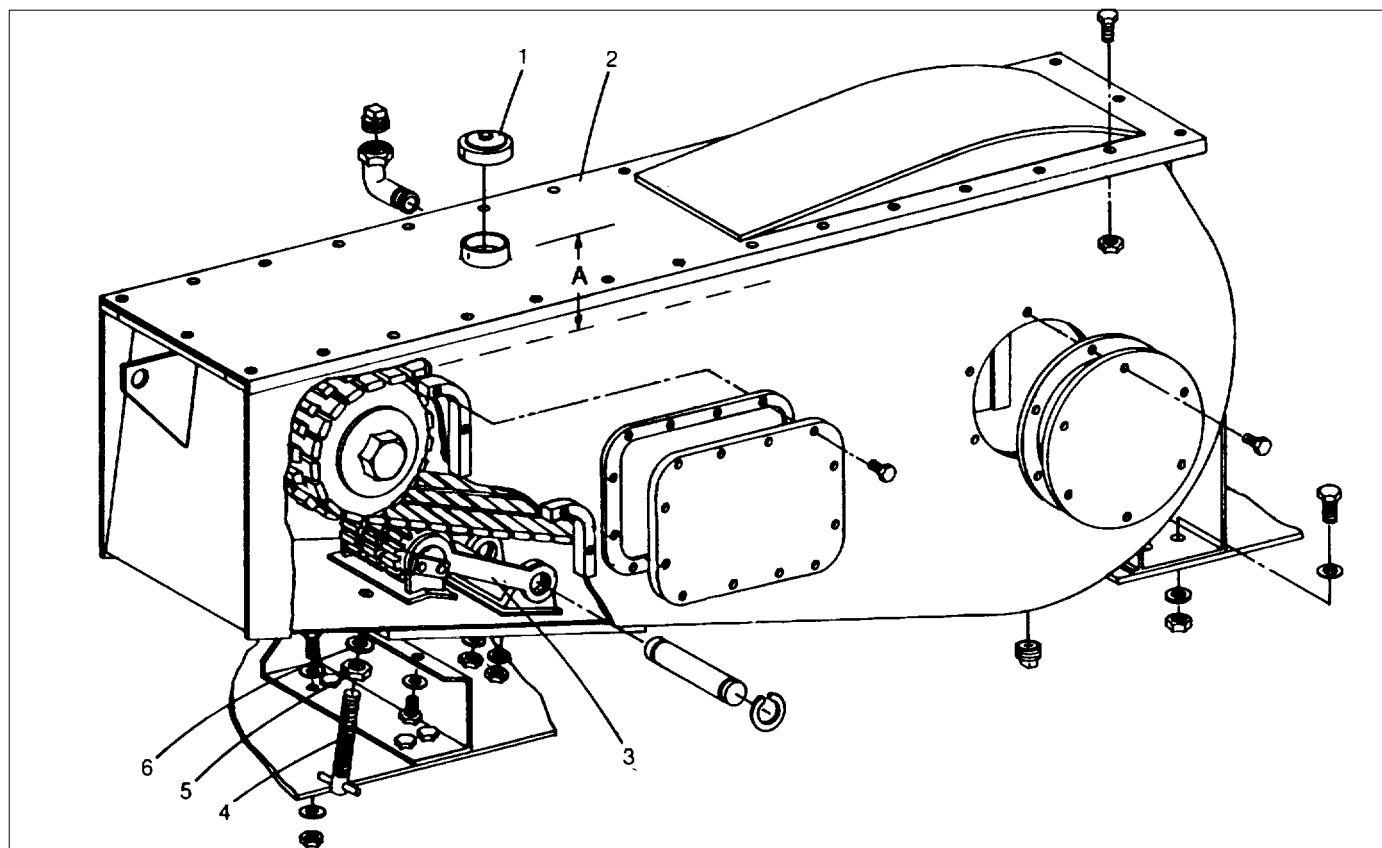

Fig. 5
- (1) Cotter In Position
- (2) Hit Punch
- (3) Cotter Bent
6.4 Drive Chain Adjustment (Fig. 5)
Chain tension is adjusted by lowering or raising the adjusting arm and pinion (item 3 in Fig. 5) with the adjusting screw (4). The chain case must be installed on the machine before adjusting drive chain tension. Refer to "Chain Case Installation" procedure, later in this SM, for